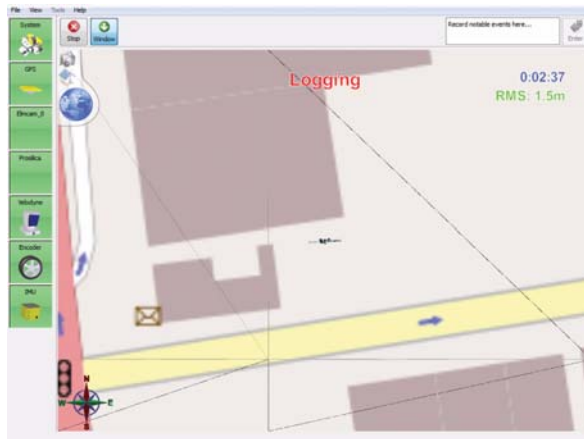

Figure 2-5. Static Alignment is Complete
1. During static alignment, do not move until the process reaches **100%** and the notice on the main window changes from **Static Alignment** to **Logging** (Figure 2-5 on page 2-5).
When **Logging** appears on the page (Figure 2-5), the static alignment process is complete (Figure 2-5).